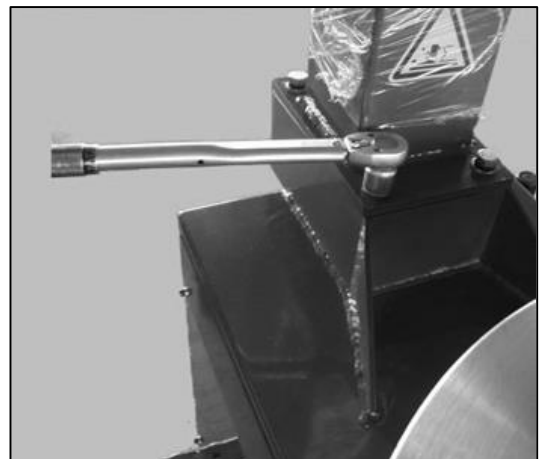

Fig. 5
3.2.1 After un-packaging the package carton, take out Accessory Boxes (Fig. 4-1), Bead Breaking Arm (Fig 4-5) and Column Assembly (Fig. 4-2). Ensure to position the machine according to the information noted in Chapter 1.4.ENVIRONMENT REQUIREMENT. Remove mounting bolts, lock washers & flat washers from Column Base (Fig. 4-4) in preparation to install Column to Base (Fig. 5).
3.2.1 Using a Torque Wrench, tighten bolts to 52 ft.-lbs. (Fig. 5.) to secure Column to Base.